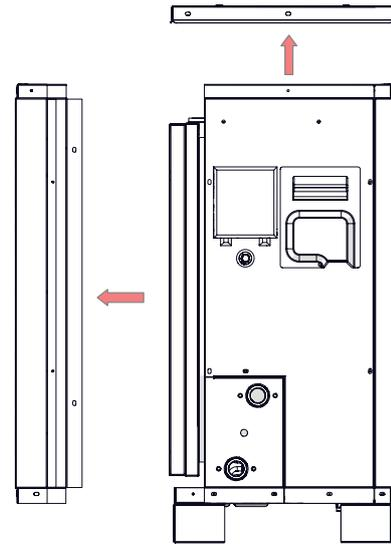

Figure 5-13 - Remove the upper and front cover
- 5.- Remove the upper and front cover of the appliance, so as to be able to access the internal components (Figure 5-13);